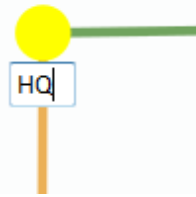

Figure 57 Custom Node Naming
- **Custom Node Naming** – Naming each node in the network is as simple as double-clicking on the node name and typing in a new name as shown in **Figure 57**. Once this is done, the user need to hit enter to keep the node name. Otherwise it will change back to what it was. This feature enables quick identification of nodes in the field and is especially useful in mission critical situations with many mobile assets. The user can click on the 'Save Labels in Flash' button in the left pane to store the node names to the radio's flash memory. This will store the names on the radio even after the radio is powered off. The saved labels can also be cleared back to the defaults by clicking 'Clear Labels in Flash'. The node labels set in one radio can also be broadcasted to other radios in the network by clicking the 'Broadcast Node Labels' button.